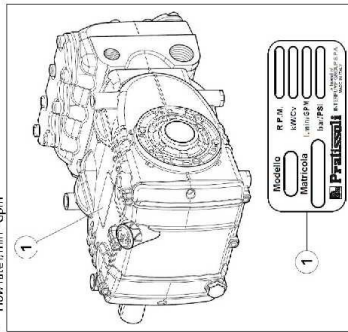

Fig. 1
Each pump has an identification label, see pos. 0 of fig. 1